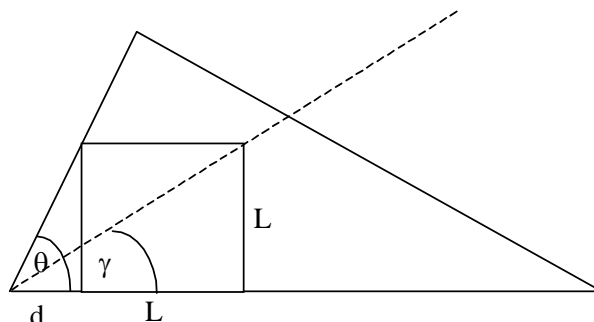

Figure 10
- Consider the defining lengths and angles shown in fig.10, which shows the triangle and a square with upper left vertex touching the left side of the triangle.